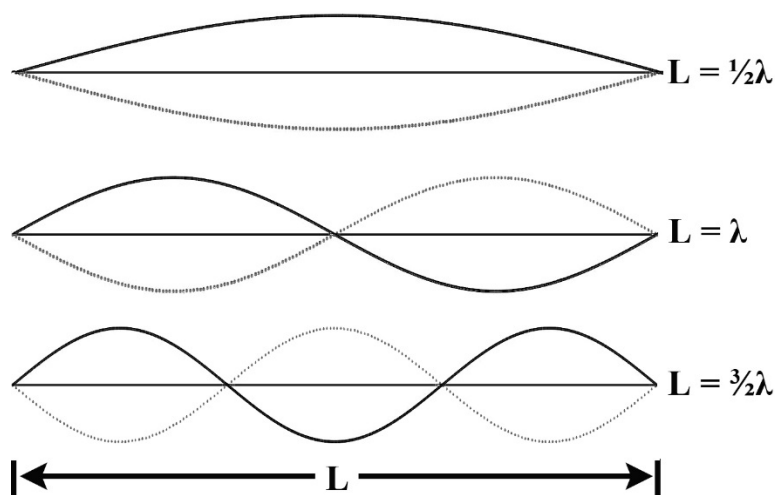

Figure 4: Modes of Vibration
A stretched string has many natural modes of vibration (three examples are shown in Figure 4 above). If the string is fixed at both ends then there must be a node at each end. It may vibrate as a single segment, in which case the length (L) of the string is equal to $1/2$ the wavelength (λ) of the wave. It may also vibrate in two segments with a node at each end and one node in the middle; then the wavelength is equal to the length of the string. It may also vibrate with a larger integer number of segments. In every case, the length of the string equals some integer number of half wavelengths. If you drive a stretched string at an arbitrary frequency, you will probably not see any particular mode; many modes will be mixed together. But, if the tension and the string's length are correctly adjusted to the frequency of the driving vibrator, one vibrational mode will occur at a much greater amplitude than the other modes.
In the second part, we hold the frequency constant and vary the tension (Figure 4) to get standing waves with different numbers of segments, so different values of λ . Plotting F versus λ^2 should give a straight line with slope μf^2 .